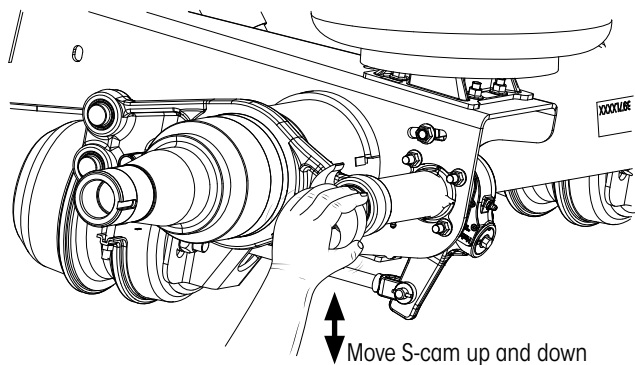

Figure 5: Checking for bushing wear
1. On all models, **check** for radial play between the S-cam and S-cam bushings. Use a dial indicator rigidly secured to the axle or suspension beam to measure the up and down movement of the S-cam (Figure 5).